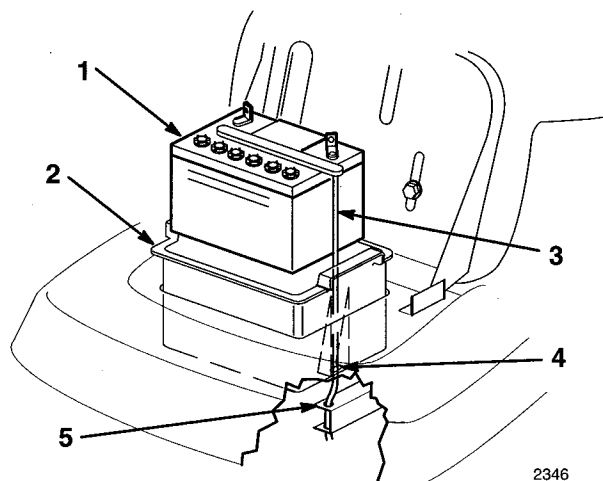

Figure 18
5. Remove the battery box, battery, and long vent tube from the chassis (Fig. 18).
1. Put the battery into the battery box and slide the vent tube into the channel and through the slot in the bottom of the box (Fig. 18).
IMPORTANT: Look down into the cut out area where the battery box fits into the chassis. Notice the hole at the end of the right frame member (Fig. 18). Always install the long battery vent tube through the holes to prevent battery acid from corroding the tractor and mower.
2. Install the battery box and battery into the chassis (Fig. 18). Make sure to slide the end of the vent tube through the holes in the frame (Fig. 18).